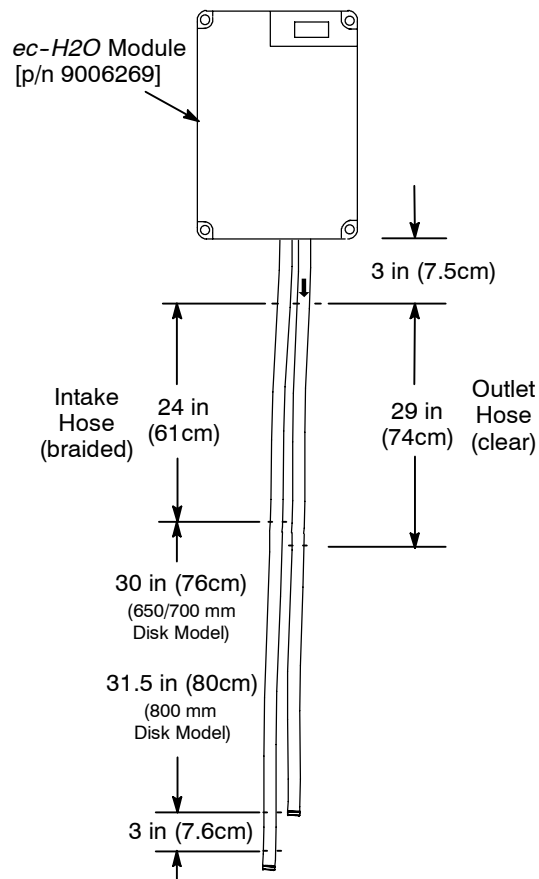

Fig. 19
1. Cut the two *ec-H2O* module hoses as specified (Figure 19).